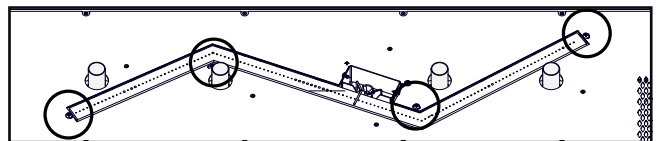

Fig. 2
5. Remove the 4 screws securing the burner to the media tray and lift the media tray from the appliance (**Fig. 2.**).